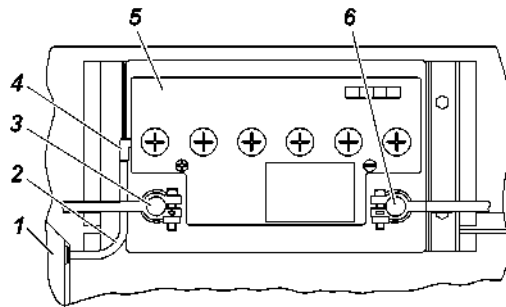

Fig. 9.37 Battery of UAZ-220695, UAZ-396295 vehicles:
The battery is installed in the cabin on the left side behind the wheel splash guard. On UAZ-220695, UAZ-396295 vehicles a battery with a vent pipe is used. Pipe 2 (Fig. 9.37) is installed outside the car interior into the under hood space. If during the proper operation of the vehicle, the battery is gradually discharged or overcharged by the generator, and the electrolyte starts “boiling”, check the generator operations.
1. Disconnect pipe 2 (Fig. 9.37) from battery 5;